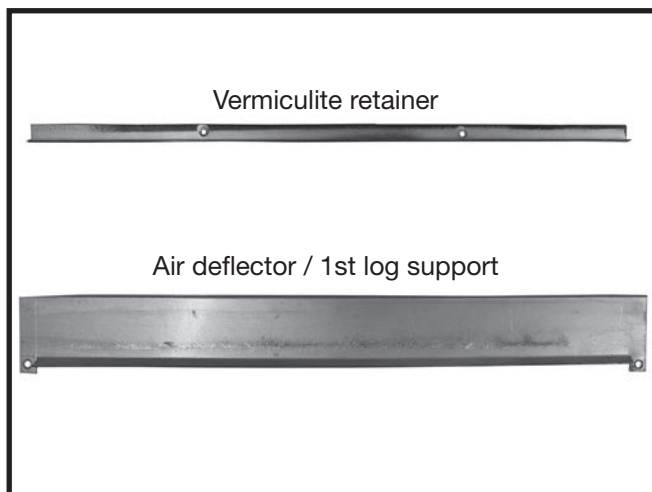
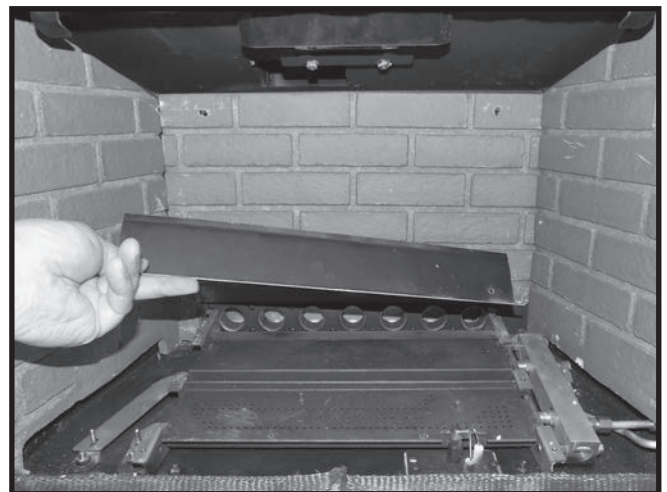
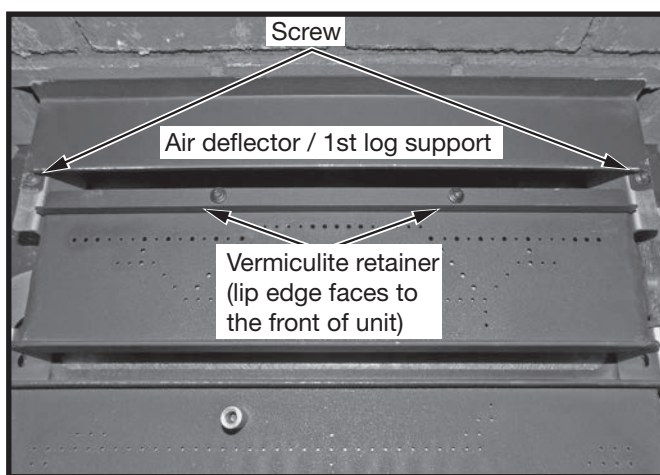

Figure 61: Vermiculite retainer and air deflector-1st log support.
Figure 62: Air deflector.
Figure 63: Gap between air deflector and burner.
1. Begin by placing the air deflector / 1st log support (Figure 61) behind the rear burner and up against the rear wall (Figure 62). Position so that the lip faces toward the front of the fireplace. Fasten the deflector down with supplied screws. Once the deflector is secured, there should be a gap of approximately 1/2 inch between the deflector and the burner (Figure 63). This gap is required for air flow. Also secure the Vermiculite Retainer (Figure 61) along the back of the rear burner. This will help to keep the vermiculite from spilling over from the burner and down into the air gap.